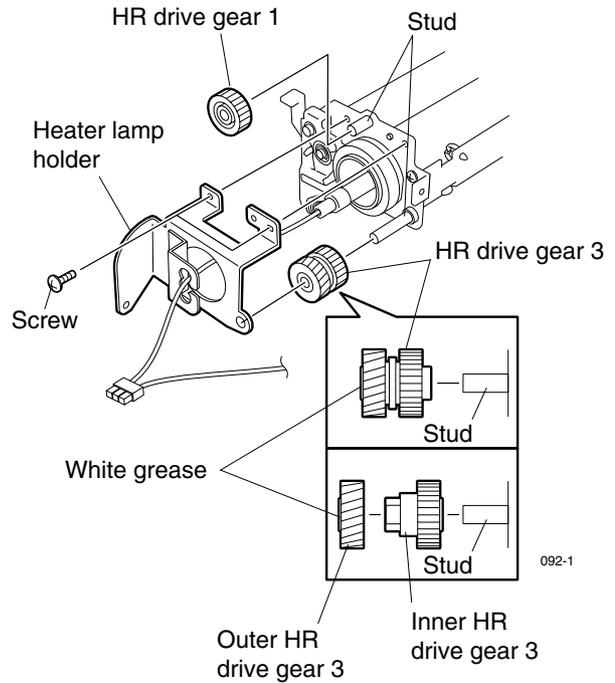

Fig. 14-7-16
6. Remove the HR drive gear 1 and HR drive gear 3. (See Fig.14-7-16)